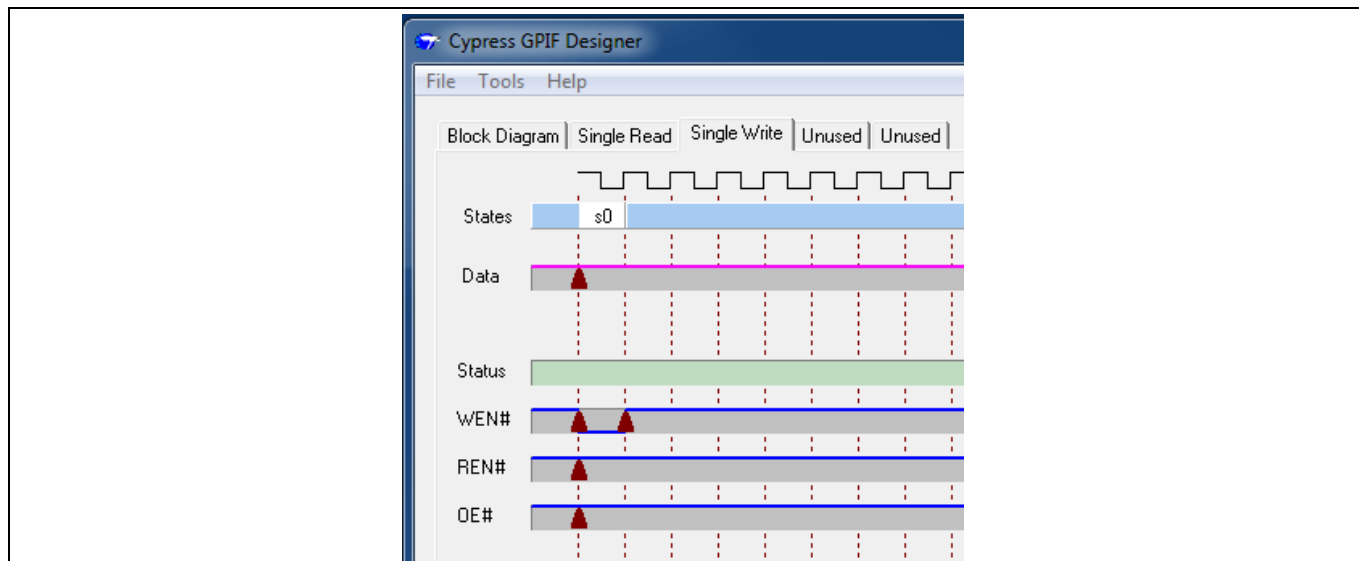

Figure 41 WEN# Pulses Low for One Clock
3. Because the GPIF is writing to the external FIFO, REN# and OE# must be asserted high throughout the waveform to keep the external FIFO from driving its data bus. To ensure this, right-click on the action point on the OE# and REN# trace and select **High (1)**. The waveforms appear as shown in Figure 41.